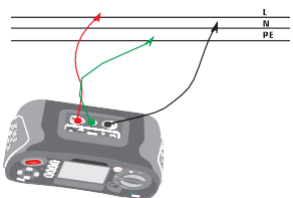

Figure 22 Phase Sequence-Test lead connection
3. Connect the test leads L1, L2, L3 as shown on the figure 22 - when the instrument is energized the sequence will be displayed automatically.